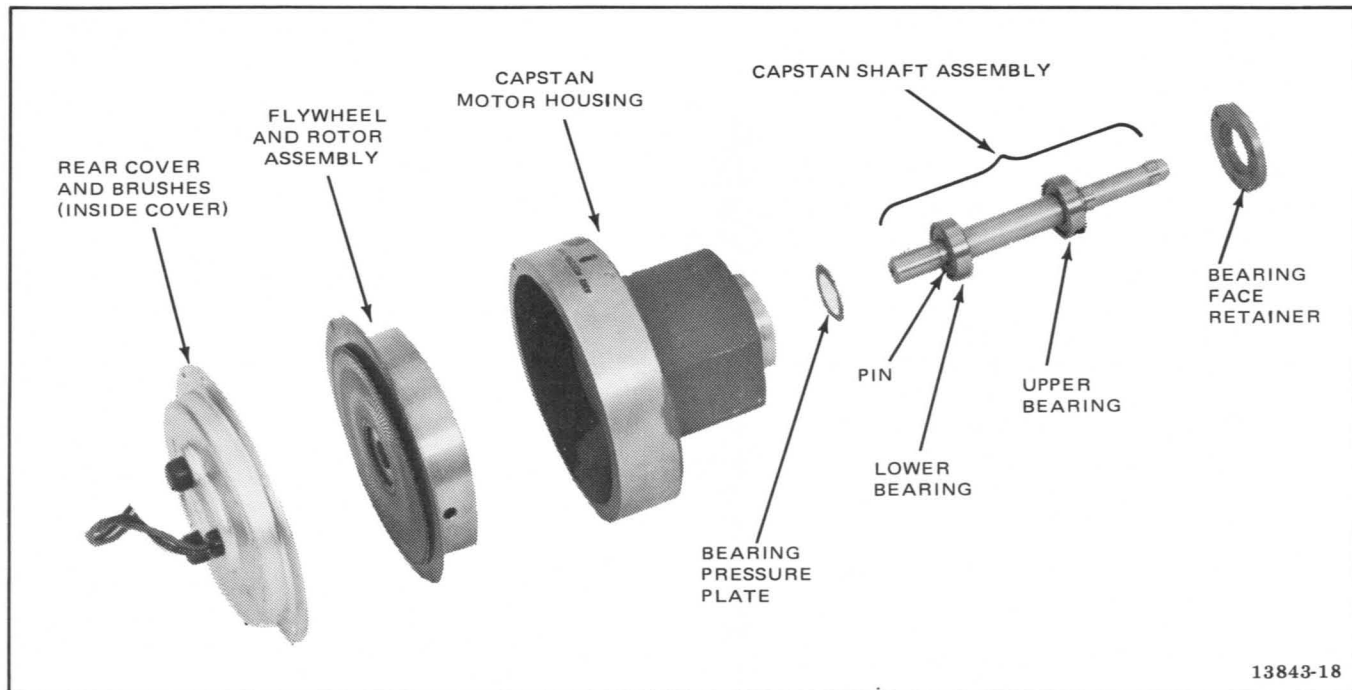
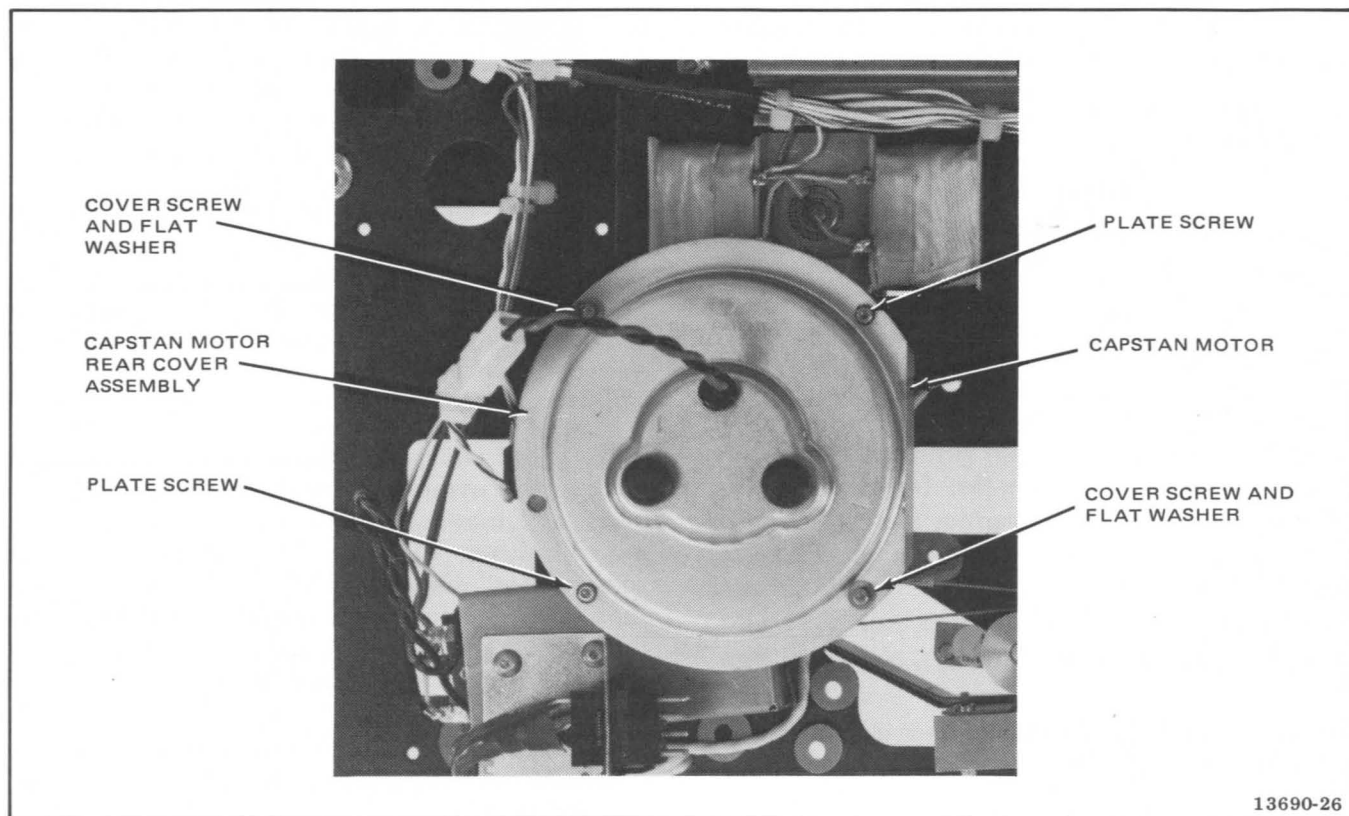

Figure 5-46. Exploded View of Capstan Motor
Figure 5-49. Rear View of Capstan Motor Assembly
Besides the complete capstan motor, component parts that can be replaced are the motor brushes, flywheel and rotor assembly, capstan shaft assembly, and capstan motor bearings (Figure 5-46). It is not necessary to remove the complete motor to replace any of these component parts. The brushes are located within the rear cover. Note that the flywheel and rotor are not separable parts and therefore must be replaced as a unit.
- 5-96. Flywheel and Rotor.** Use the following procedure to replace the flywheel and rotor assembly (Figure 5-46).
2. Remove the two hex-socket plate screws (Figure 5-49) that secure the 1/16-inch thick plate to the capstan housing (Figure 5-46).
7. Check that the bearing pressure plate shown in Figure 5-46 (looks like a large washer) is either resting on the springs or is held by grease film to the lower bearing on the capstan shaft assembly.
2. Prior to removing the lower bearing (Figure 5-46), remove the 0.062 flywheel drive pin from the capstan shaft.
6. If the lower bearing (Figure 5-46) was replaced, reinstall the 0.062 pin removed in step 2. Use an adhesive such as Loctite to secure pin. Be sure pin is fully bottomed in hole drilled in side of shaft.